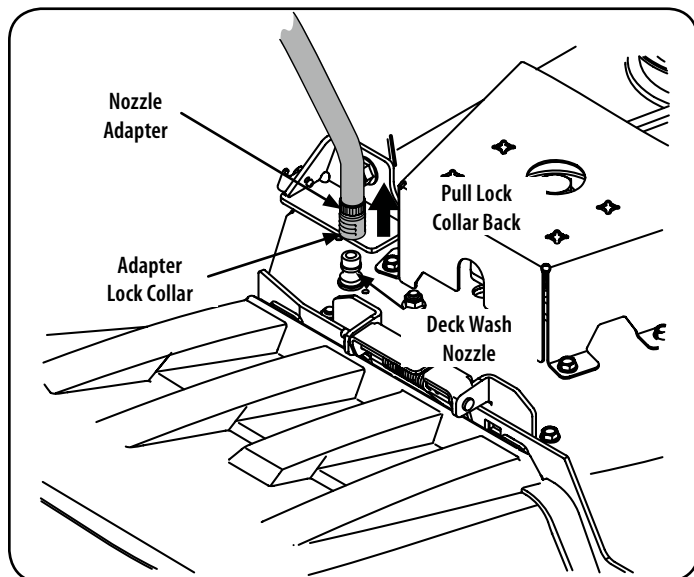

Figure 22
3. Pull back the lock collar of the nozzle adapter and push the nozzle adapter onto one of the deck wash nozzles at either end of the tractor deck. Release the lock collar to lock the nozzle adapter on the deck wash nozzle. See Figure 22.